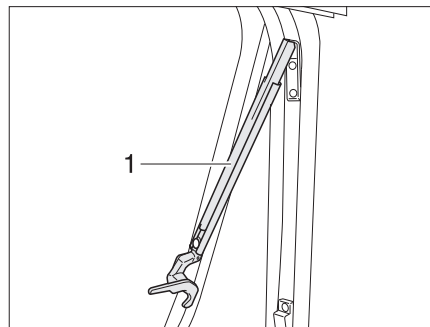

Fig. 14 Hinged window with automatic hinges, open
- Open the hinged window to the desired latched position. The automatic hinge (Fig. 14,1) locks in place automatically.